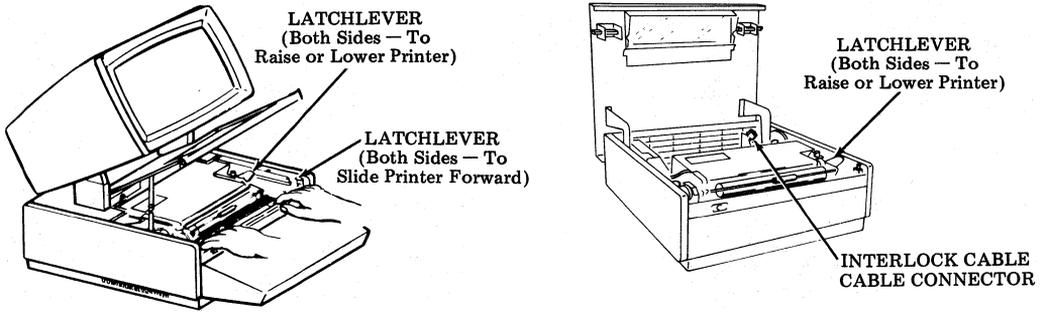

Fig. 22—Printer Under Monitor and Printer Adjacent
6.04 Depress latchlevers, and push printer down until it latches. Connect interlock cable at right rear corner of printer (Fig. 22).
*Note:* Installation of printer under monitor and printer adjacent is similar. For printer under monitor arrangement the printer mounting tracks slide out by releasing latches on both sides of the cabinet and pulling forward. See Fig. 22 for location of latches.